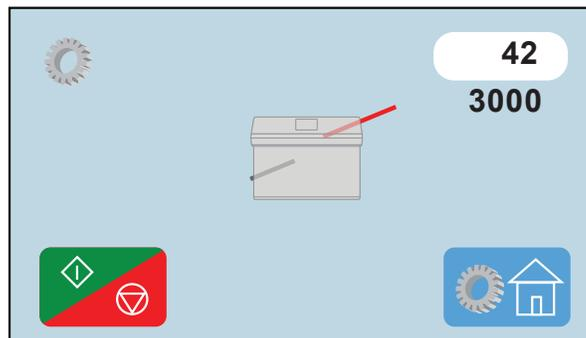

Fig. 55a
- Press the Start/Stop icon “” the fold stop will move to the highest position and a number will appear in the white box (Fig. 55a). Press the Start/Stop icon again to move the fold stop to the lowest position. A new number will appear in the white box for the lower position. Run the test a couple more times if the numbers remain within 1 to 2 of the original numbers the fold table is working properly.